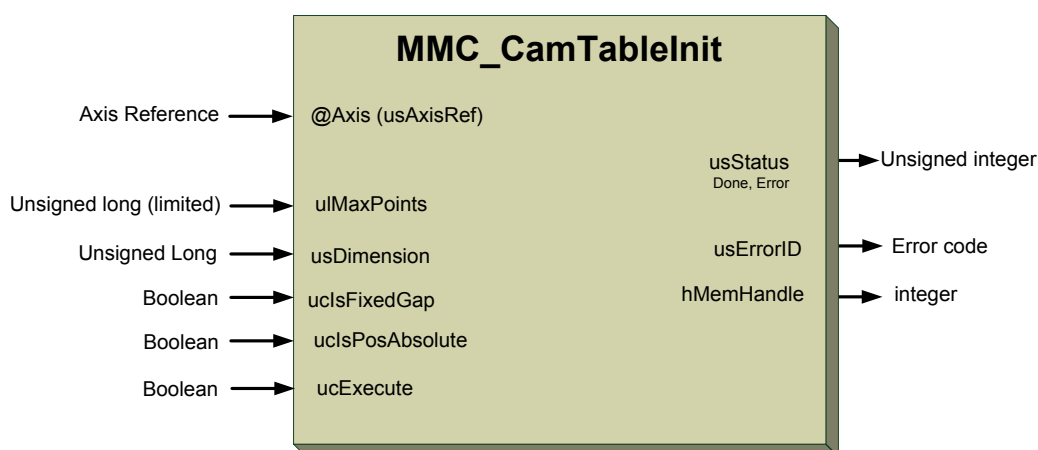

Figure 7-11: MMC\_CamTableInit function
**Figure 7-11** describes the function for MMC\_CamTableSelectCmd as applied within the IEC 61131 programming.